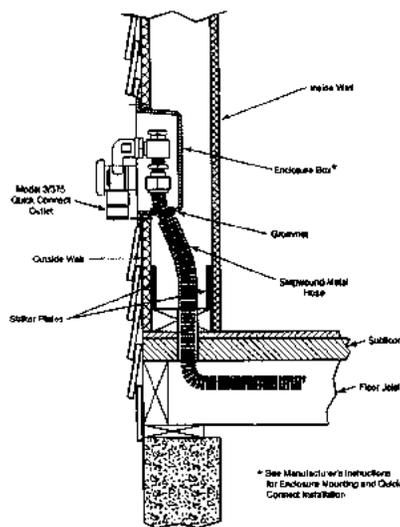

Figure 4-16
1. Movable Grills shall be connected using an approved outdoor appliance connector which shall be attached to the flexible piping system at either a termination mount fitting, a transition to a steel nipple, or a quick-connect device such as the M. B. Sturgis Model 3/375 shown in figure 4-16. The quick-connect outlet shall be installed in accordance with manufacturer's instructions.